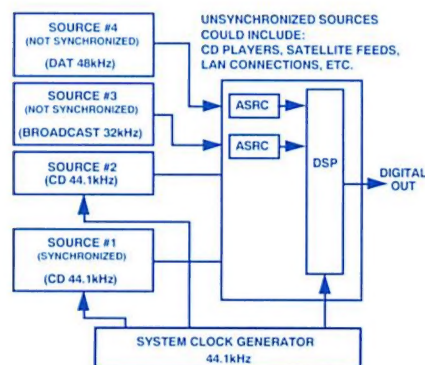

Figure 1. Typical application of sample-rate converter.
**The digital mixing problem: marching to the beat of the same drummer:** Consider Figure 1. In this example, an all-digital mixer is receiving inputs from a variety of sources. These sources might also include external A/D boxes connected to microphone preamps, the digital outputs of outboard signal processing devices—such as digital reverbs or dynamics processing units, and possibly an external source coming from a remote site over a satellite feed or high-speed network connection. In an ideal world, all of these sources would generate their digital outputs at precisely the same sampling rates; on every tick of the clock, the input samples combine, each correctly weighted, to generate the desired mixed output signal. But what if one source produces samples slightly faster than the digital mixer's internal clock? The mixer may then occasionally miss a sample on that input. On the other hand, if the input is slightly slow, the mixer will occasionally repeat a sample. How often this happens depends on the sample-rate difference; a 0.1% sample-rate error would cause a data error at 22 ms, while a 10% error would cause a data error to occur every 220  $\mu$ s.